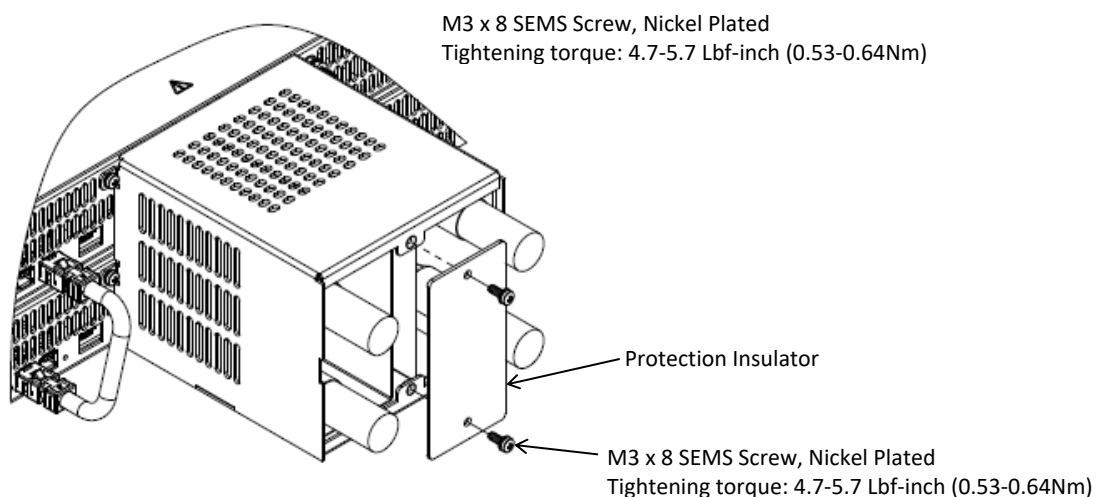

Figure 15: Two 20V-40V Units Protection Insulator Assembly
- Fix protection insulator to the output cover using two SEMS screw as illustrated in Figure 15.